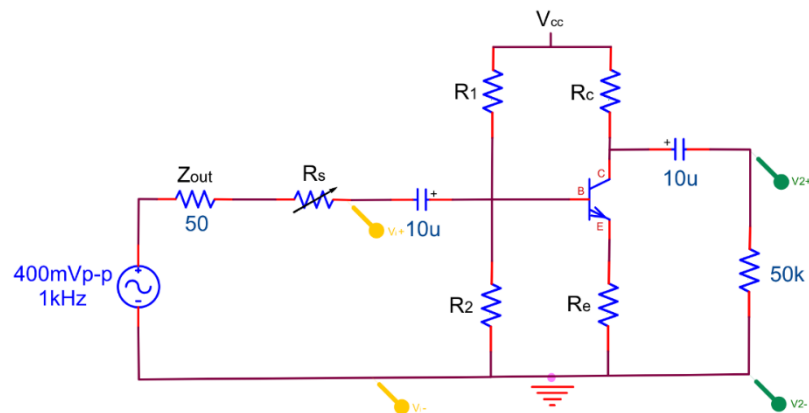

Figure 6.6
5. Return the signal generator voltage output to 400 mVp-p. Measure and record the output voltage of the amplifier. This is v_1 . Leaving the signal generator voltage constant, insert increasing resistor values in series between the generator output and the amplifier input (see Figure 6.6) until the output of the amplifier drops approximately to one half v_1 . Record this value as v_2 . Calculate the input impedance of the amplifier using the following equation: